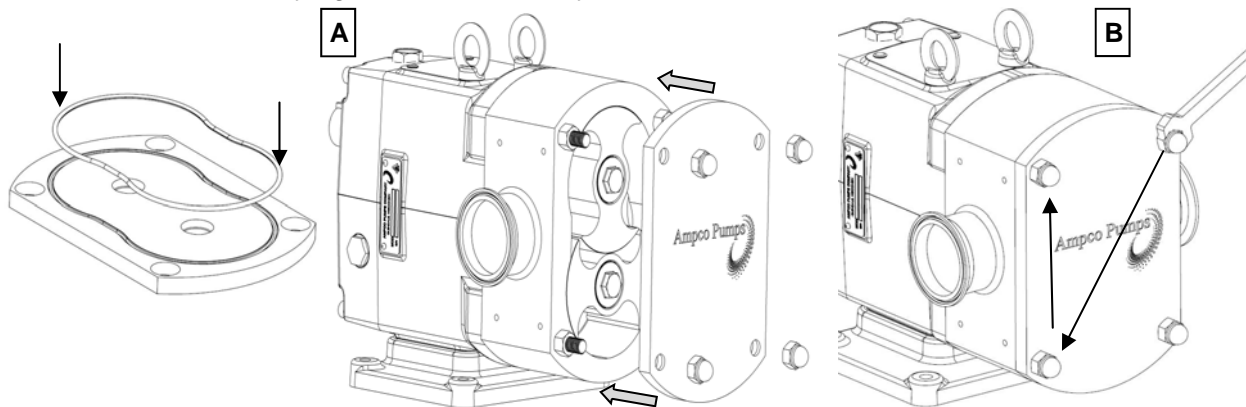
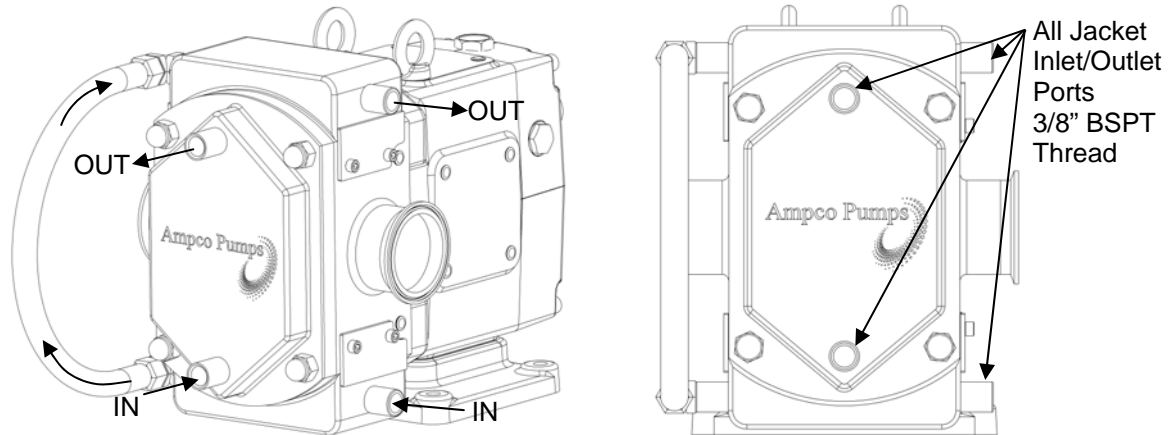

Figure 63: Cover Installation
Figure 65: Jacketed Cover
2) Install the new cover o-ring and slide the cover over the studs (Figure 63, A). Visually inspect to ensure that the cover o-ring remained in place. Using an appropriate wrench, thread the cover nuts on the studs and tighten them in an opposing manner as seen in Figure 65, so that the cover is evenly tightened to the body.
The jacketed cover and casing option (Figure 65) allows for heating or cooling fluid to be circulated around the pump's fluid end to match the demands of certain products. This fluid (media) can preheat or cool the product and sustain temperature during operation and short shut downs. The jacketed cover is not a heat exchanger and is not designed to primarily control the product temperature. Please contact Ampco Pumps for replacement information.